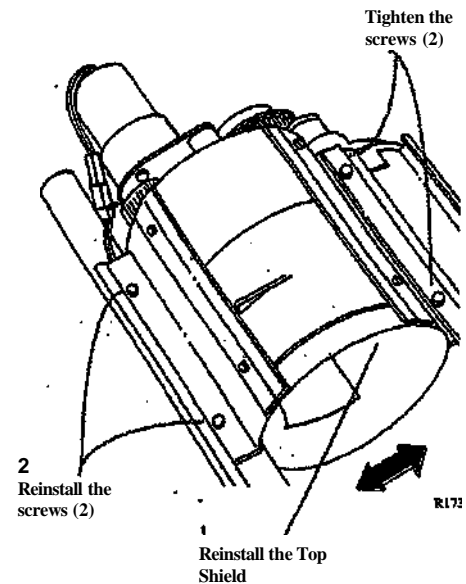

Figure 7. Reinstalling the Top Shield
4. (Figure 7): Reinstall the Top Shield, taking care not to overtighten the screws.